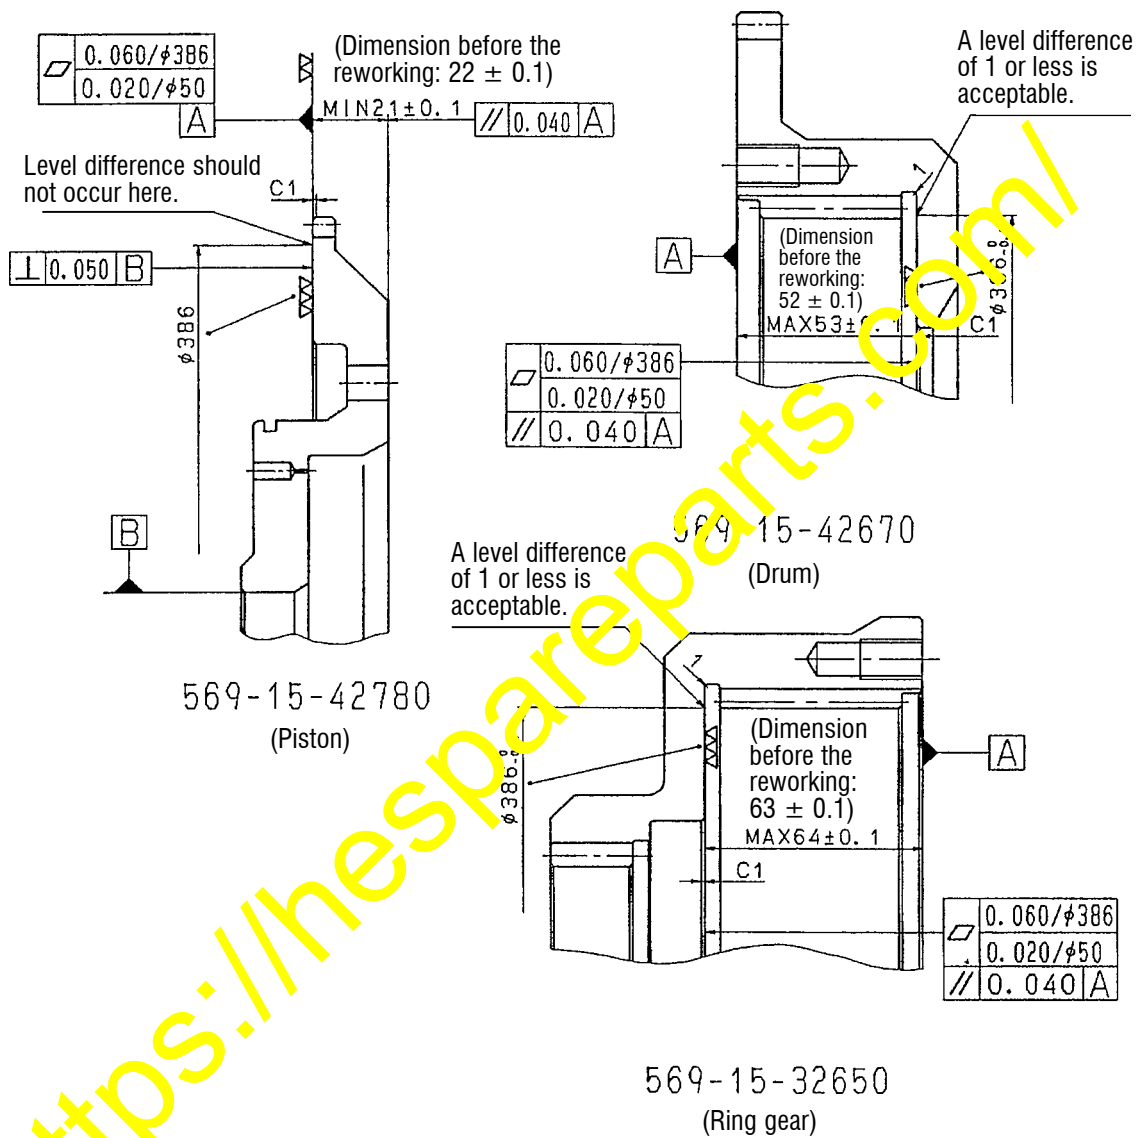

Fig. 3-1. Detailed reworking drawing for the ring gear, piston and drum
- (1) As per the instructions given in Fig. 3-1 shown below, carry out reworking to machine the wave spring sliding surface on the piston (569-15-42780), ring gear (569-15-32650) and drum (569-15-42670) until the stepped wear sections are removed.